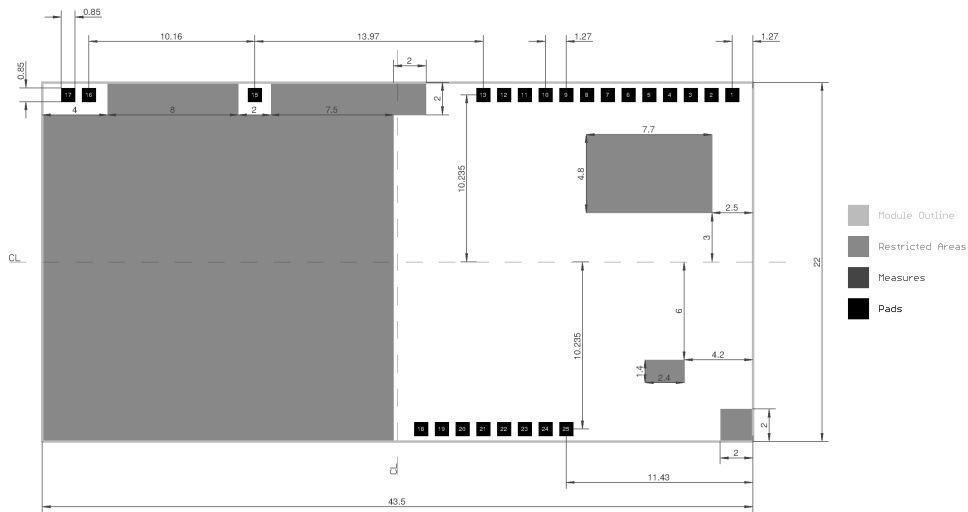

Figure 3: Recommended Footprint
5. The drawing in Figure 3 shows the top view on the footprint (as if you look through the module).